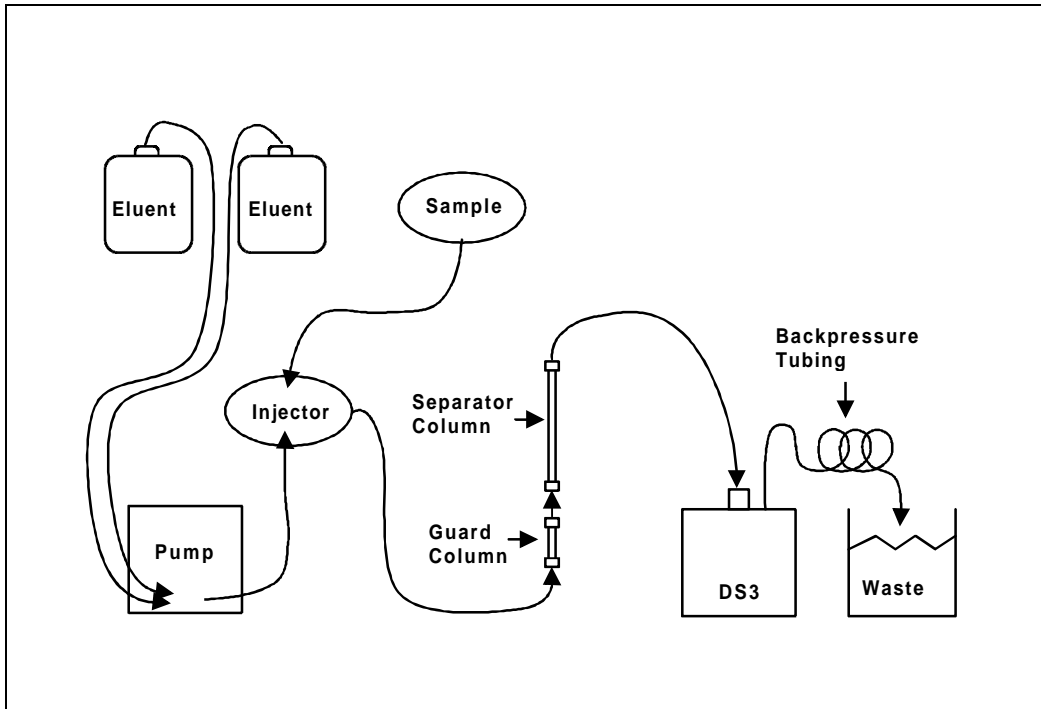

Figure B-5. Nonsuppressed Mode
- Nonsuppressed mode, illustrated in Figure B-5. Note that conductivity measurements made when no suppressor is in-line may show noticeable baseline drift.